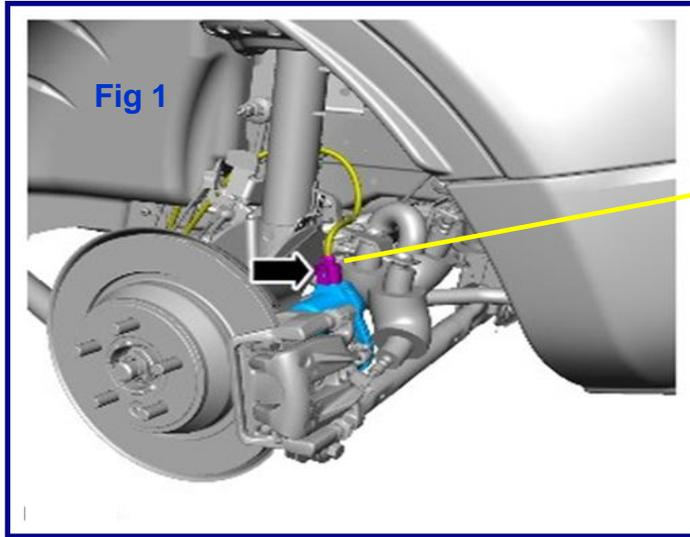

Fig 1
1. Remove the loadspace floor panel. Fig 1
Manual release. This involves removing the electric motor / actuator (2 Torx T30 screws figs 1 & 2) and O-ring set, and winding back the piston manually, using an Allen key.